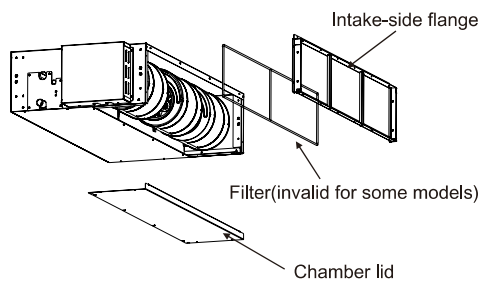

Fig. 3.1.5
- (1) Remove the chamber lid.
- (2) Reattach the removed filter in the orientation shown in Fig. 3.1.5.